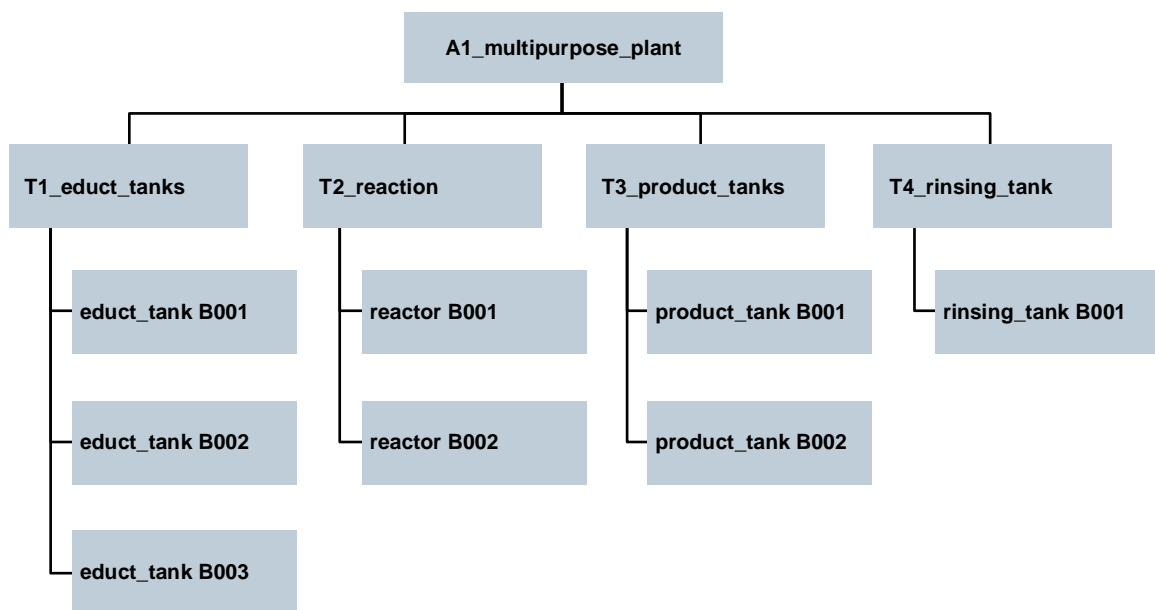

Figure 4: Diagram of the complete plant hierarchy
1. Implement the entire plant hierarchy of the multipurpose plant corresponding to Figure 4 below.